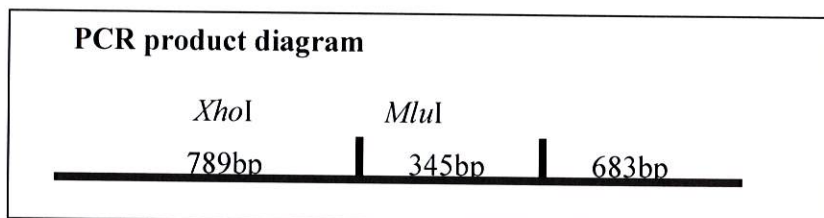

Figure 6. PCR product diagram
9. Run the entire digest on a 1.2%-1.5% agarose gel. Three bands should be seen (789bp, 683bp, and 345bp) (Figures 6 and 7). Three bands will appear only if both *Mlu*I and *Xho*I have cut. Therefore the digest is diagnostic of the enzyme cuts in the following fashion (Table 7).